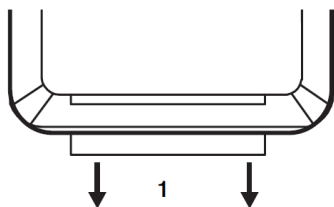

Figure 1
1. Before using the remote control, remove the plastic insulation sheet from the remote control by pulling it in the direction of the arrow. (see Figure 1)